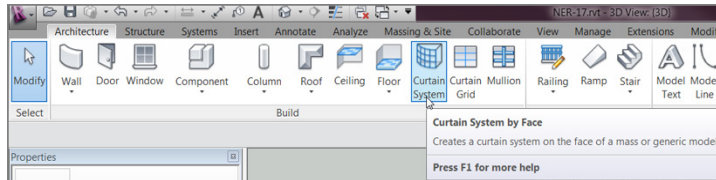

FIGURE 16.48: The Curtain System button on the Architecture tab
1. On the Architecture tab, click the Curtain System button, as shown in Figure 16.48.